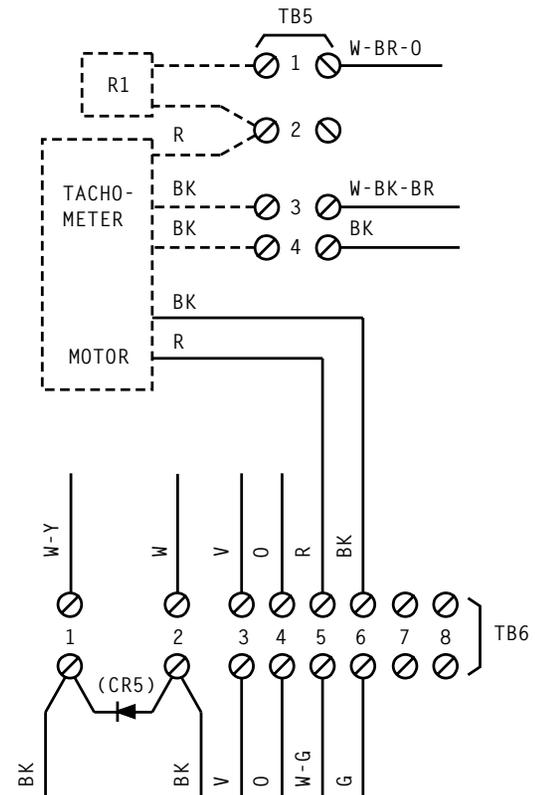

FIG. 1 - Terminal Board Wiring (TB5 and TB6)
3. At rear of transport casting door, remove three cable assembly leads from **TB5** and two motor leads from **TB6** [FIG. 1]
9. Connect three cable assembly leads to **TB5** and two motor leads to **TB6** [FIG. 1]